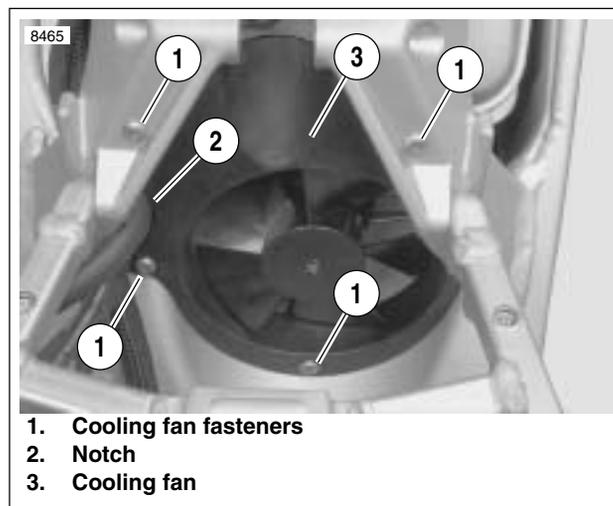

Figure 4-50. Cooling Fan
4. See Figure 4-50. Remove cooling fan fasteners (1).